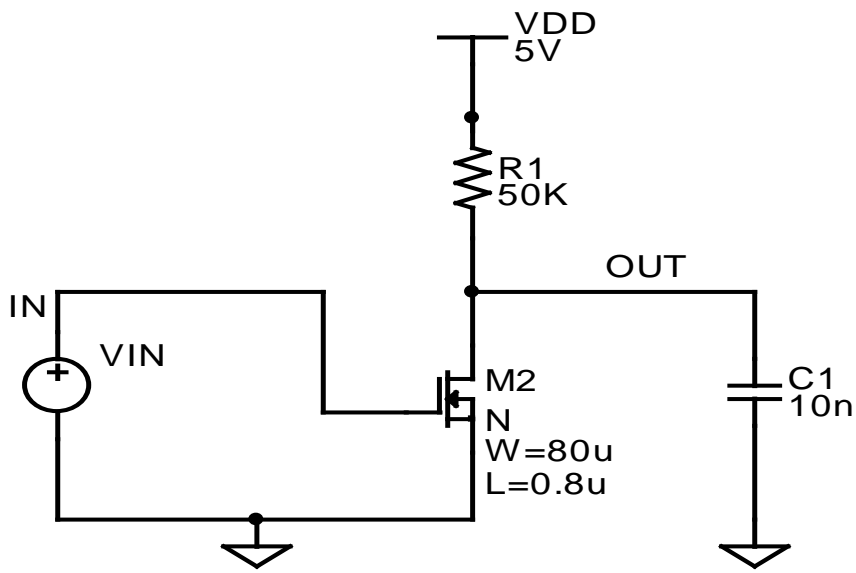

Fig. 1. Common source inverting amplifier.
1. Perform a design report comparing a MOS inverting amplifier in Figure 1 to one where a BJT substitutes for the MOSFET. The  $V_{switch}$  substitution is optional. Note that for a BJT, there can be a DC convergence issue in the DC sweep if  $V_{in}$  is too high. Either restrict  $V_{in}$  or add a 1 ohm resistor between  $V_{in}$  and the base input. Compare and contrast gain and bandwidth. For the MOS case, this is known as a common source amplifier, while for the BJT, this is a common emitter amplifier.